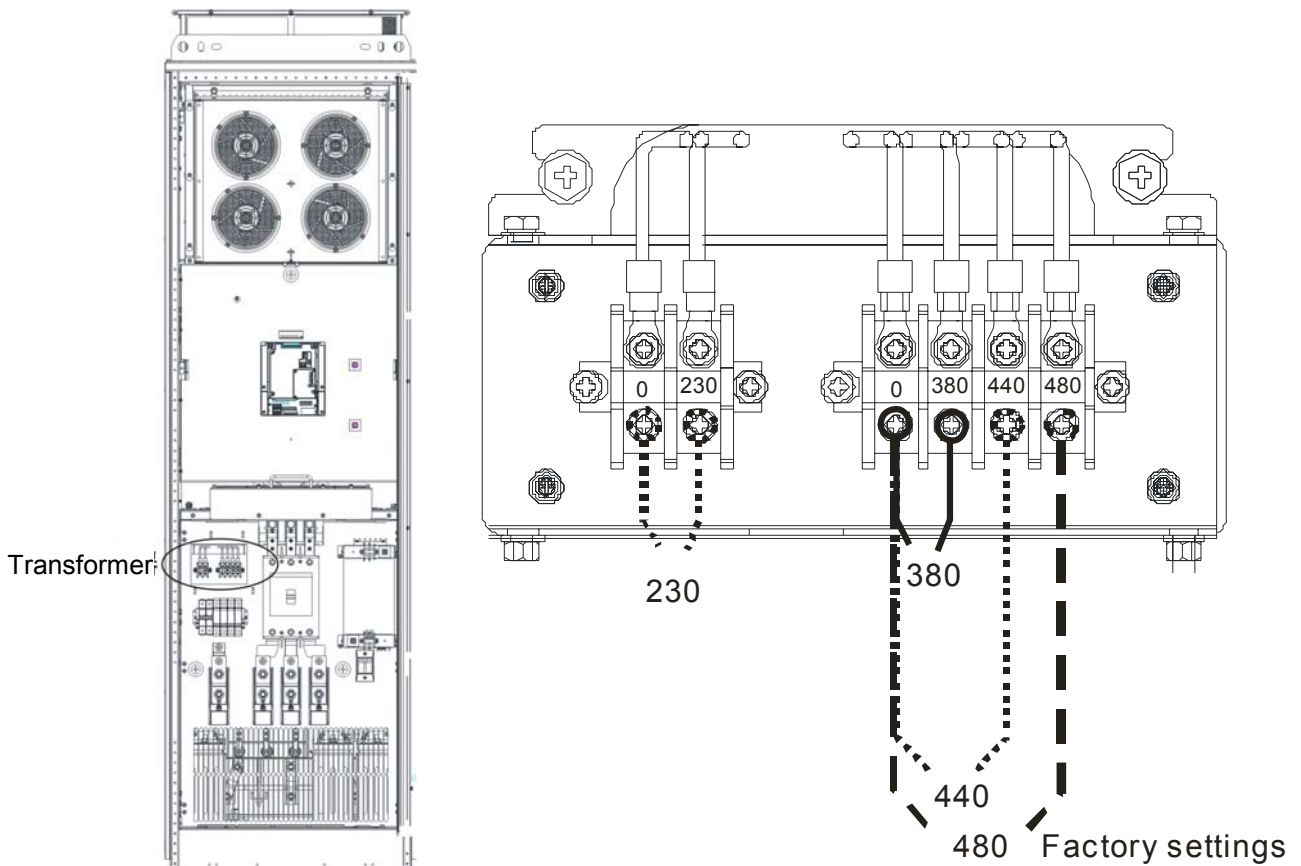

Figure 3-2 Transformer adjustment
- (2) We provide 230V/380V/440V/480V/525V/575V/690V voltages for selection. Users can select suitable voltages for their own equipment. Please refer to table 3-2 Voltage range. Please refer to the dashed lines in Figure 3-2 for wiring methods.
- (3) Before adjusting voltage, remove the transparent top cover and start wiring. After wiring is complete, be sure to return the transparent top cover to its original position. Screw M4: torque: 11.2 to 13.3 kg-cm [9.72 to 11.54lb.in] (1.1 to 1.3N.m).